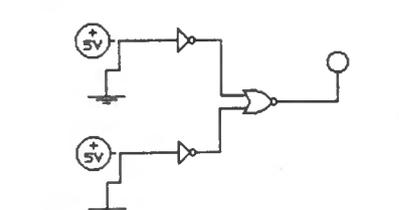

Fig. 7.26 NOR gate with inverted inputs (Assignment 7.2).
6. Connect the circuit shown in Fig. 7.26. The output of the circuit is connected to a logic level indicator whilst the two inputs are derived from +5V and ground points. Switch on the power and test the circuit by constructing its truth table.